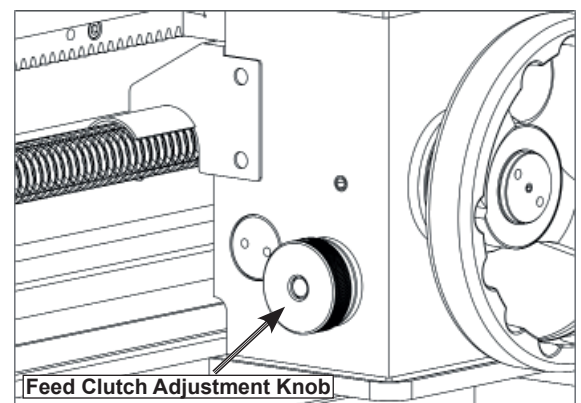

Fig. 49 Feed clutch knob
5. Adjust the feed clutch knob, shown in figure 49, to set at which point the feed clutch will slip to avoid feed system overload. Tighten the feed clutch knob completely to seat the clutch. Next, count how many turns it takes to back it off completely. Then tighten the knob 1/2 of the distance that was backed-off. If the clutch slips too easily at this conservative setting, the knob can be tightened further. But keep in mind that when the knob is completely tight, the feed clutch is overridden and will not slip in the event of a feed system overload, resulting in feed system damage.